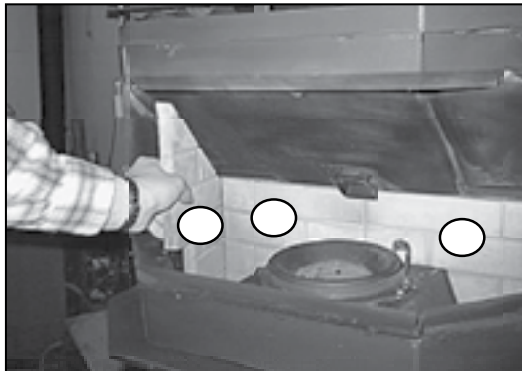

Figure 23.2
2. Place left side brick along left side of firebox, making sure chamfered (beveled) back edge fits snugly next to left rear brick. **Figure 23.2.** Repeat with right side brick.